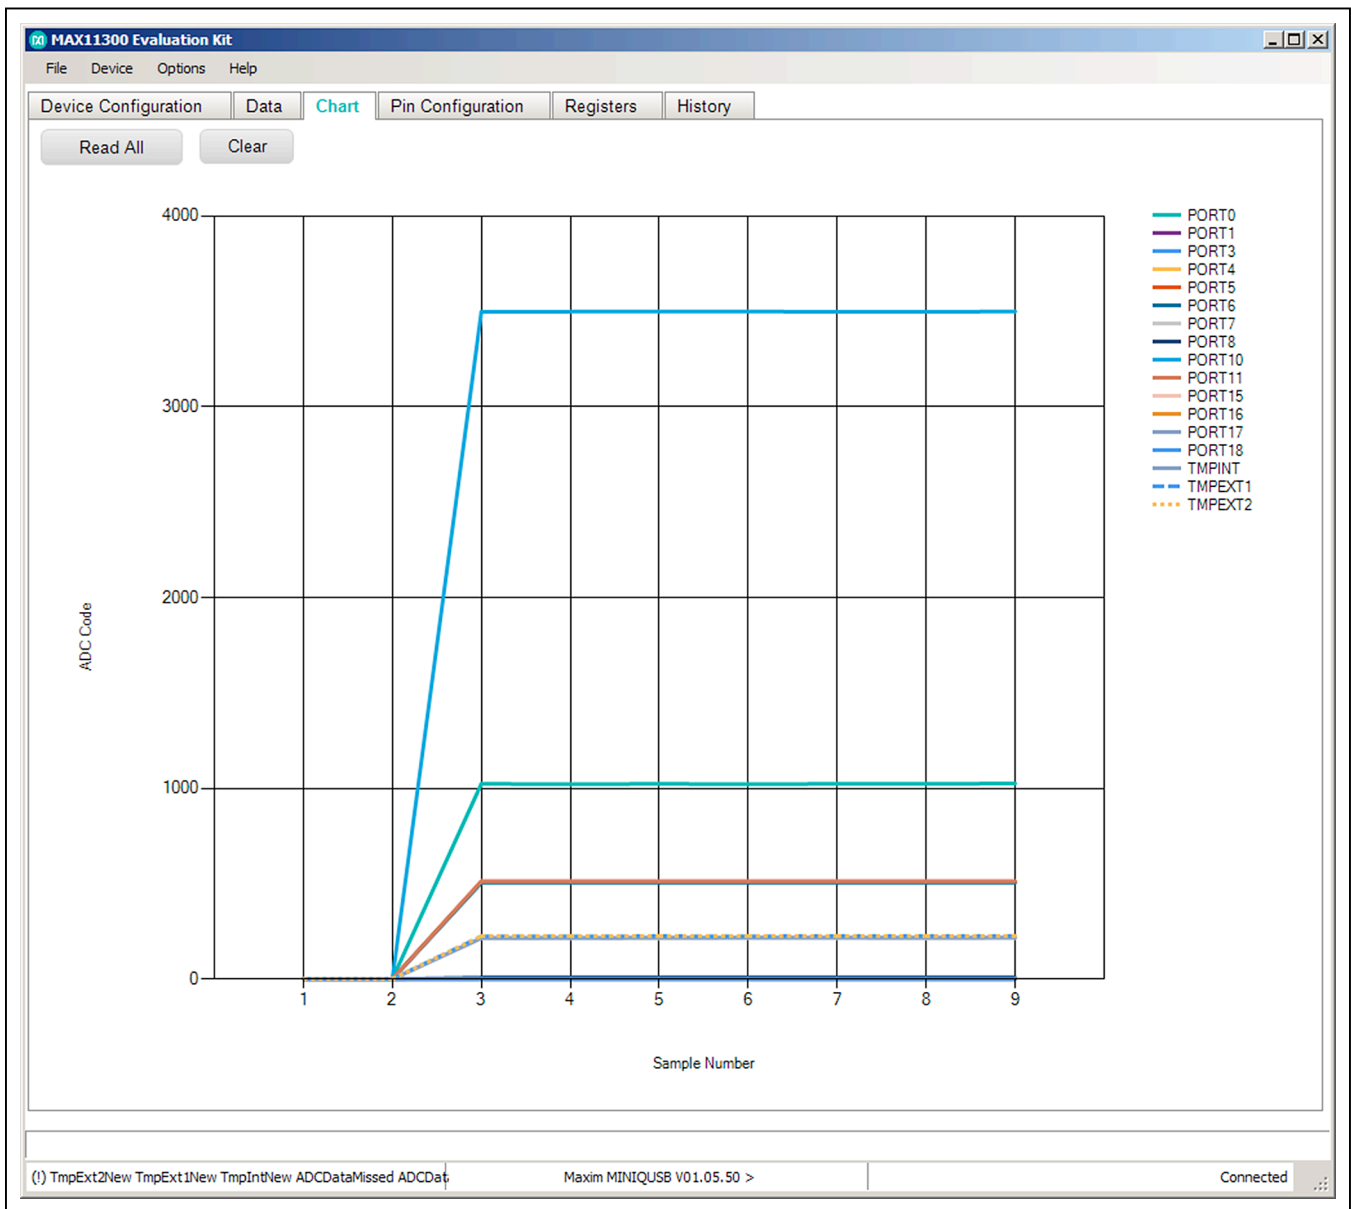

Figure 4. Chart Tab
**Out** or **GPO Out** controls, or provide ADC or GPI input values. Pins configured for GPI input can be used as interrupt sources by double-clicking in the Interrupt cell. Select the **Chart** tab (Figure 4), then check **Options** menu | **Polling** to show the analog inputs on a graph.